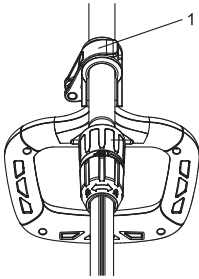

Fig. 4
NOTE: The assist handle mounting bracket can be slide up or down the telescoping tube, rotate from side to side or tilt forward or backward to place the assist handle in the most comfortable position. Turn locking lever(1) before adjusting the assist handle position and retighten it to lock the assist handle in the new position. (Fig.4)